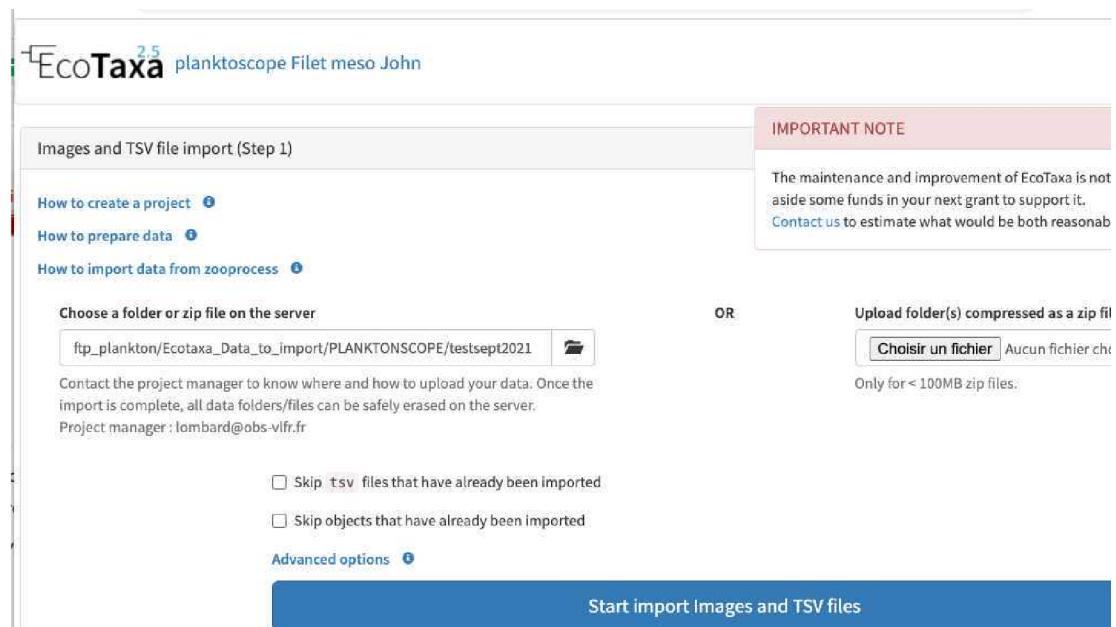

Figure 6: Data import interface.
1. In your project/ on your project options button, select import images and metadata (fig.6).